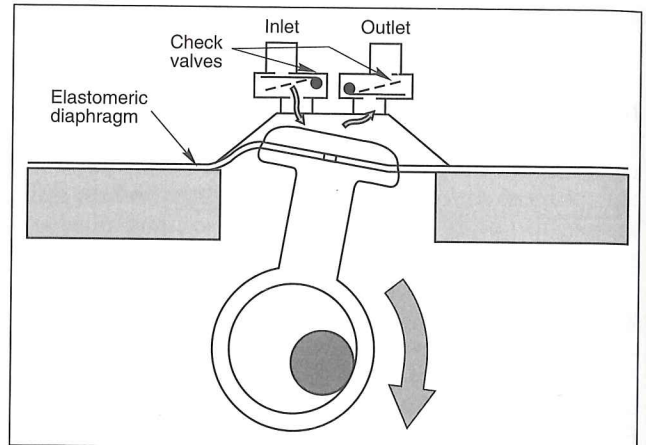

Fig. 9-9 — The reciprocating piston flexes a diaphragm which, in turn, compresses the trapped air.
**Diaphragm compressors.** A modification of the reciprocating compressor, the piston in a diaphragm compressor, Fig. 9-9, flexes a metal or elastomeric diaphragm. This motion compresses air trapped in the cylinder. The diaphragm provides a positive sealing barrier between the air and the compressor's internal parts, so they are often used where clean air is a must.